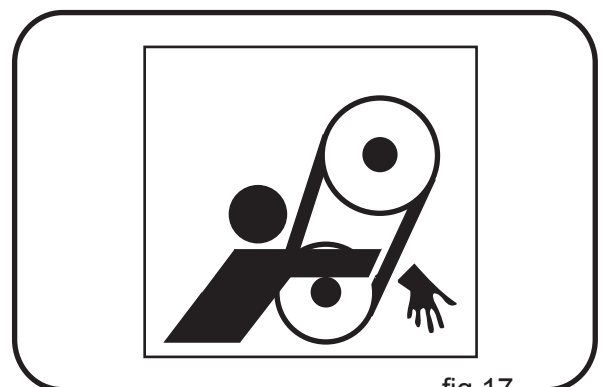

fig.17
3. Be careful not to get your hand caught between the belt and clutch pulley. Injury may occur. Wear gloves when performing this operation. (Fig. 17)